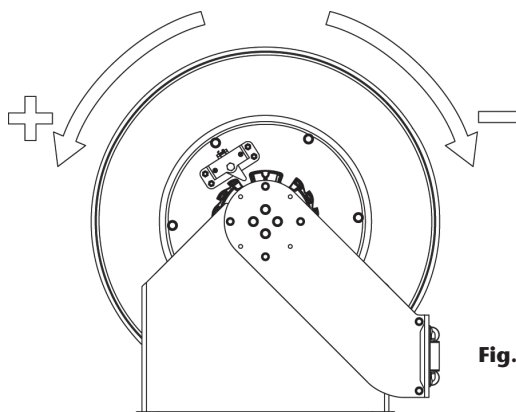

Fig. 5
6. Apply the pre-tension to the power spring by turning the spool the number of turns indicated below, depending on the power spring version and the hose length (Fig. 5):
4. Turn the spool to increase or decrease the power spring tension (Fig. 5).